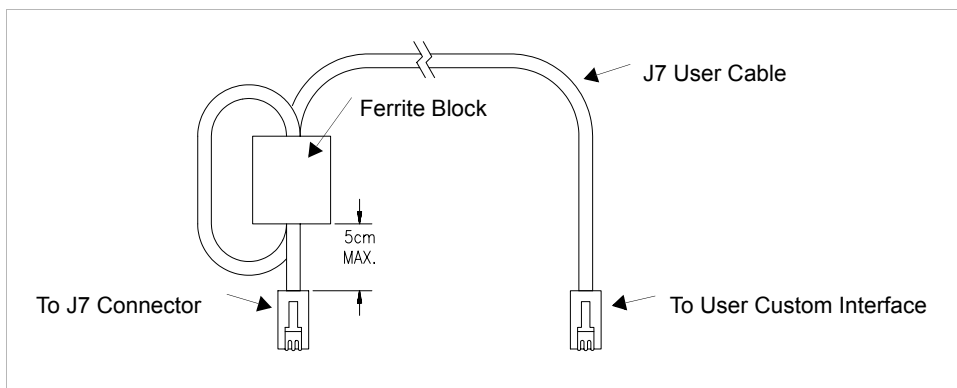

Figure 2.12 XT, HPD, XPD User Cable with Ferrite Block
3. Loop the cable through the ferrite block. See Figure 2.12, “XT, HPD, XPD User Cable with Ferrite Block” on page 41.